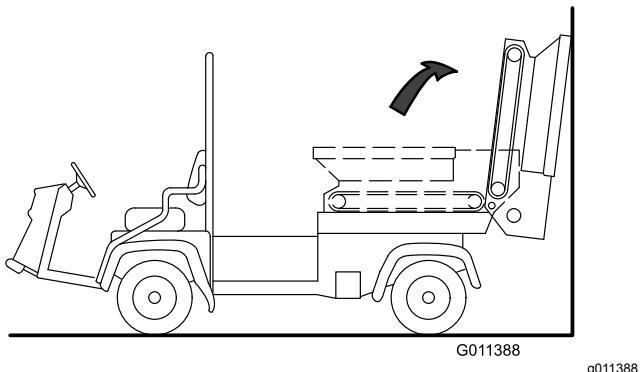

Figure 33
- Pivot the hopper rearward and lean it against a wall, ladder, etc. Do not allow the hopper to rest against the rear of machine, as damage may result to the brush or the hydraulic couplers (Figure 33).
Important: Ensure that the hopper is pivoted beyond center and/or secured to a wall or post to prevent it from accidentally falling on the work area (Figure 33).